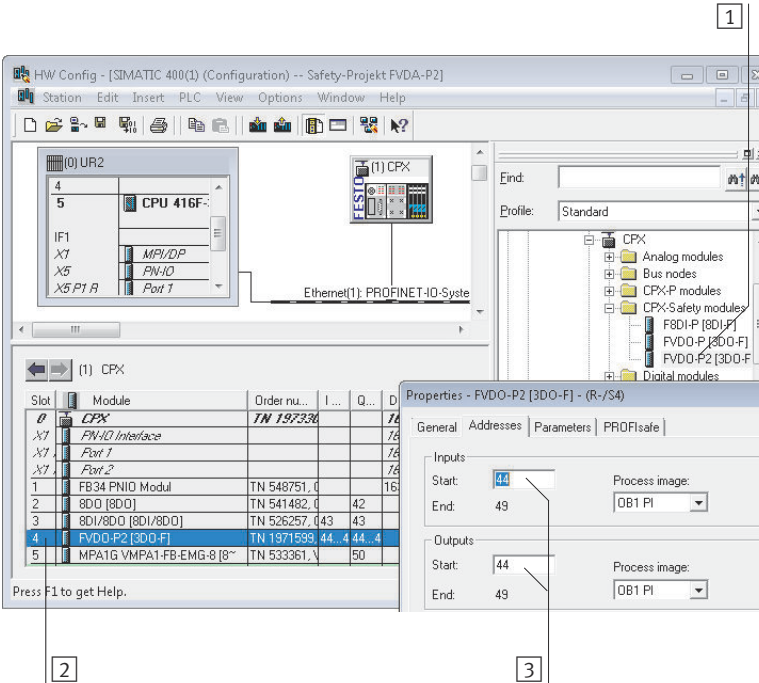

Fig. 28: CPX terminal configuration with Siemens STEP 7 – HW Config
- Now set the desired start addresses of the inputs and outputs in the [Addresses] tab of the dialogue window → Fig. 28.